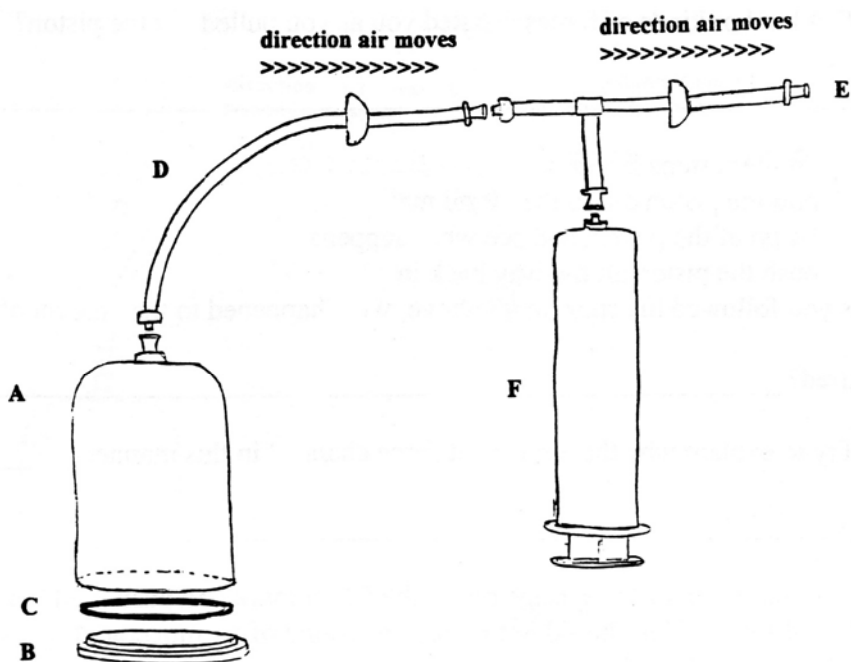

Figure 1
1. Assemble the apparatus as shown in Figure 1. Pull the piston of the syringe out to the 60 ml mark and push it all the way back in. **Do this 30 times.**
2. Disconnect hose (D) from hose (E). Hold the bottom plate on the bell jar, and hold the bell jar entirely under water in a large beaker or pail. To ensure that the bell jar stays entirely under water, allow water from the water faucet to continue to flow into the beaker or pail while performing this step. Now loosen and remove the hose from the bell jar. Describe what happens, and explain why it happens as it does.